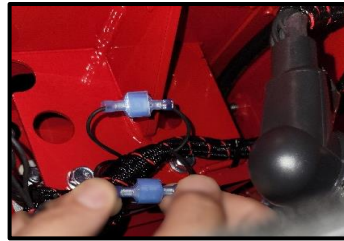
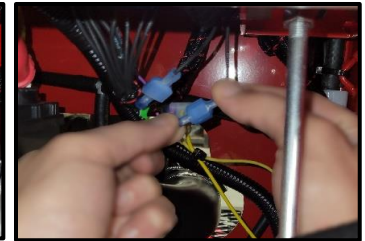

Figure 7 Left Side Motion Control Spade Terminals
Figure 8 Right Side Motion Control Spade Terminals
7. Disconnect the spade connections from the main harness at the lower end of the motion control arm [Figure 7, Figure 8].